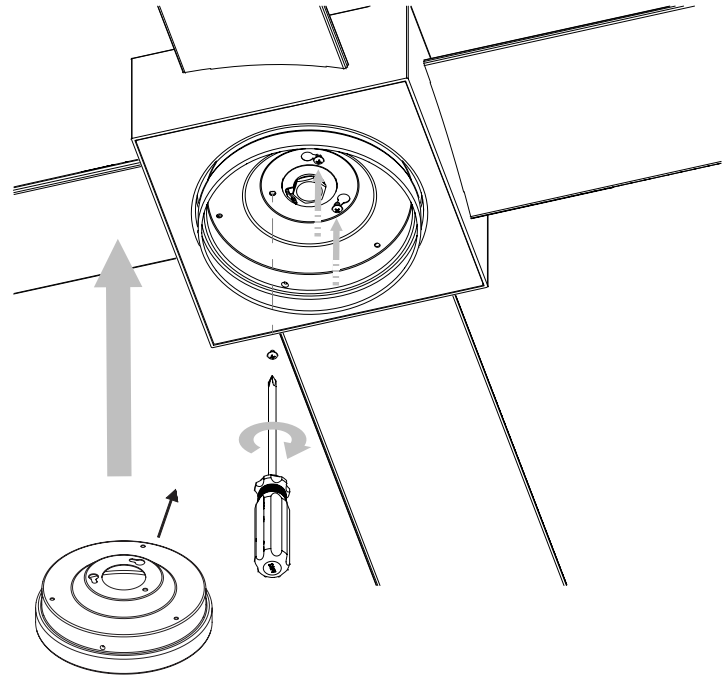

FIG.16
2. Place key holes in the adapter plate over the 2 screws previously loosened from the mounting ring. Turn the adapter plate until the adapter plate locks in at the narrow section of the key holes (**FIG.16**).